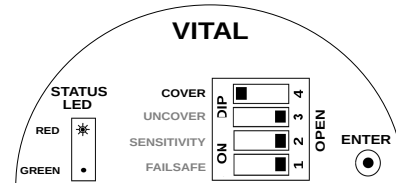

Figure 11: Cover Delay Switch Position
- Set the COVER switch to CLOSE (Opposite of OPEN in a DIP switch) position as shown in Figure 11.